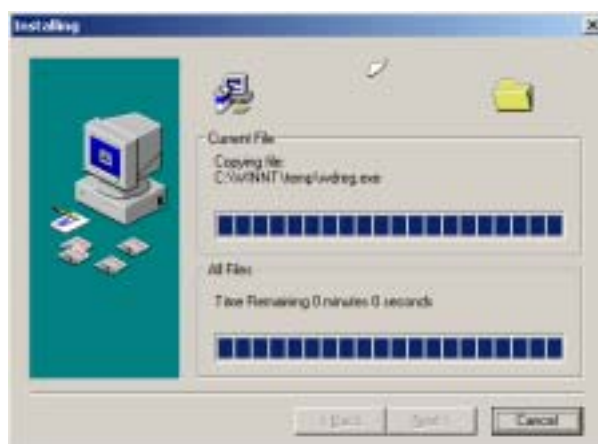

Fig.1-10
11. The installation of USB dongle begins. (Fig.1-10)